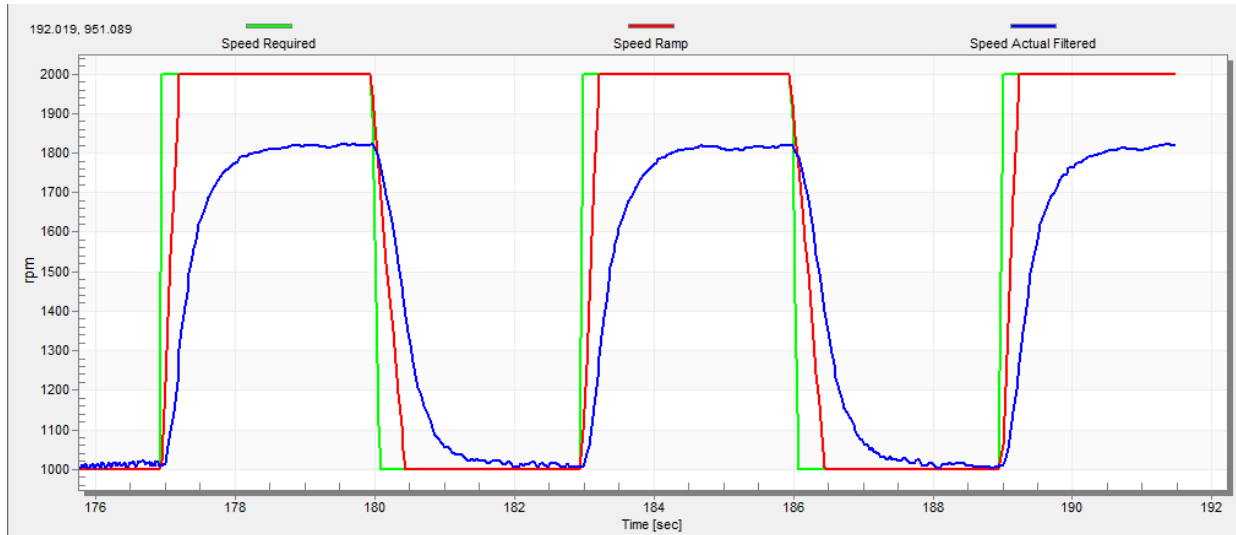

Figure 49. Speed controller response— SL_Ki value is low, Speed Ramp is not achieved
The motor speed control loop is a first-order function with a mechanical time constant that depends on the motor inertia and friction. If the mechanical constant is available, the PI controller constants can be tuned using the loop bandwidth and attenuation. Otherwise, the manual tuning of the P and I portions of the speed controllers is available to obtain the required speed response (see the example response in Figure 49). There are dozens of approaches to tune the PI controller constants. The following steps provide an approach to set and tune the speed PI controller for a PM synchronous motor:
- The “SL_Ki” value is low and the “Speed Actual Filtered” does not achieve the “Speed Ramp” (see Figure 49).